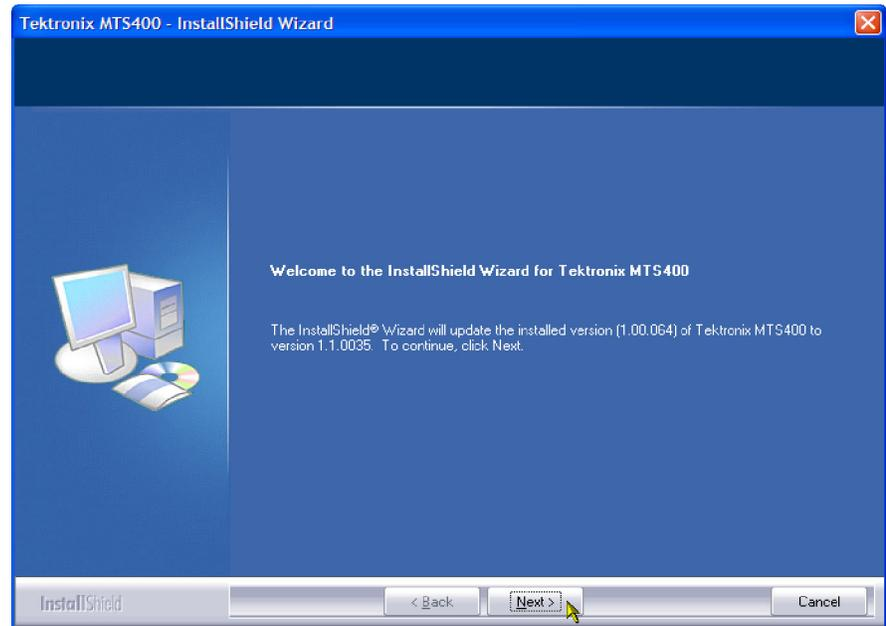

Figure 19: InstallShield Wizard welcome screen
3. Insert the *MTS400 Series Application Install CD-ROM* supplied with this kit into the CD-ROM drive of the instrument or PC to be upgraded. The CD-ROM will autostart and display the Welcome screen shown in Figure 19.